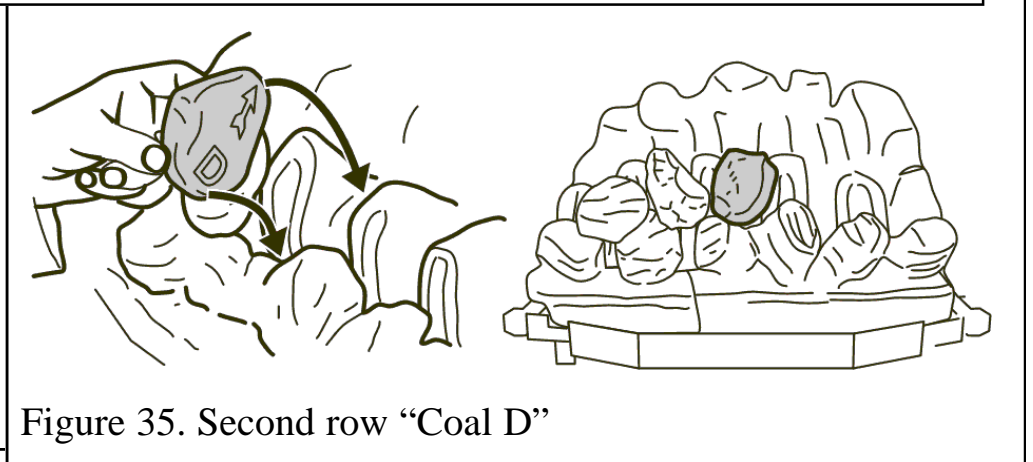

Figure 35. Second row "Coal D"
8. Hold coal 'D' upright with the arrow pointing to the top. Locate coal 'D' as shown in figure 35.